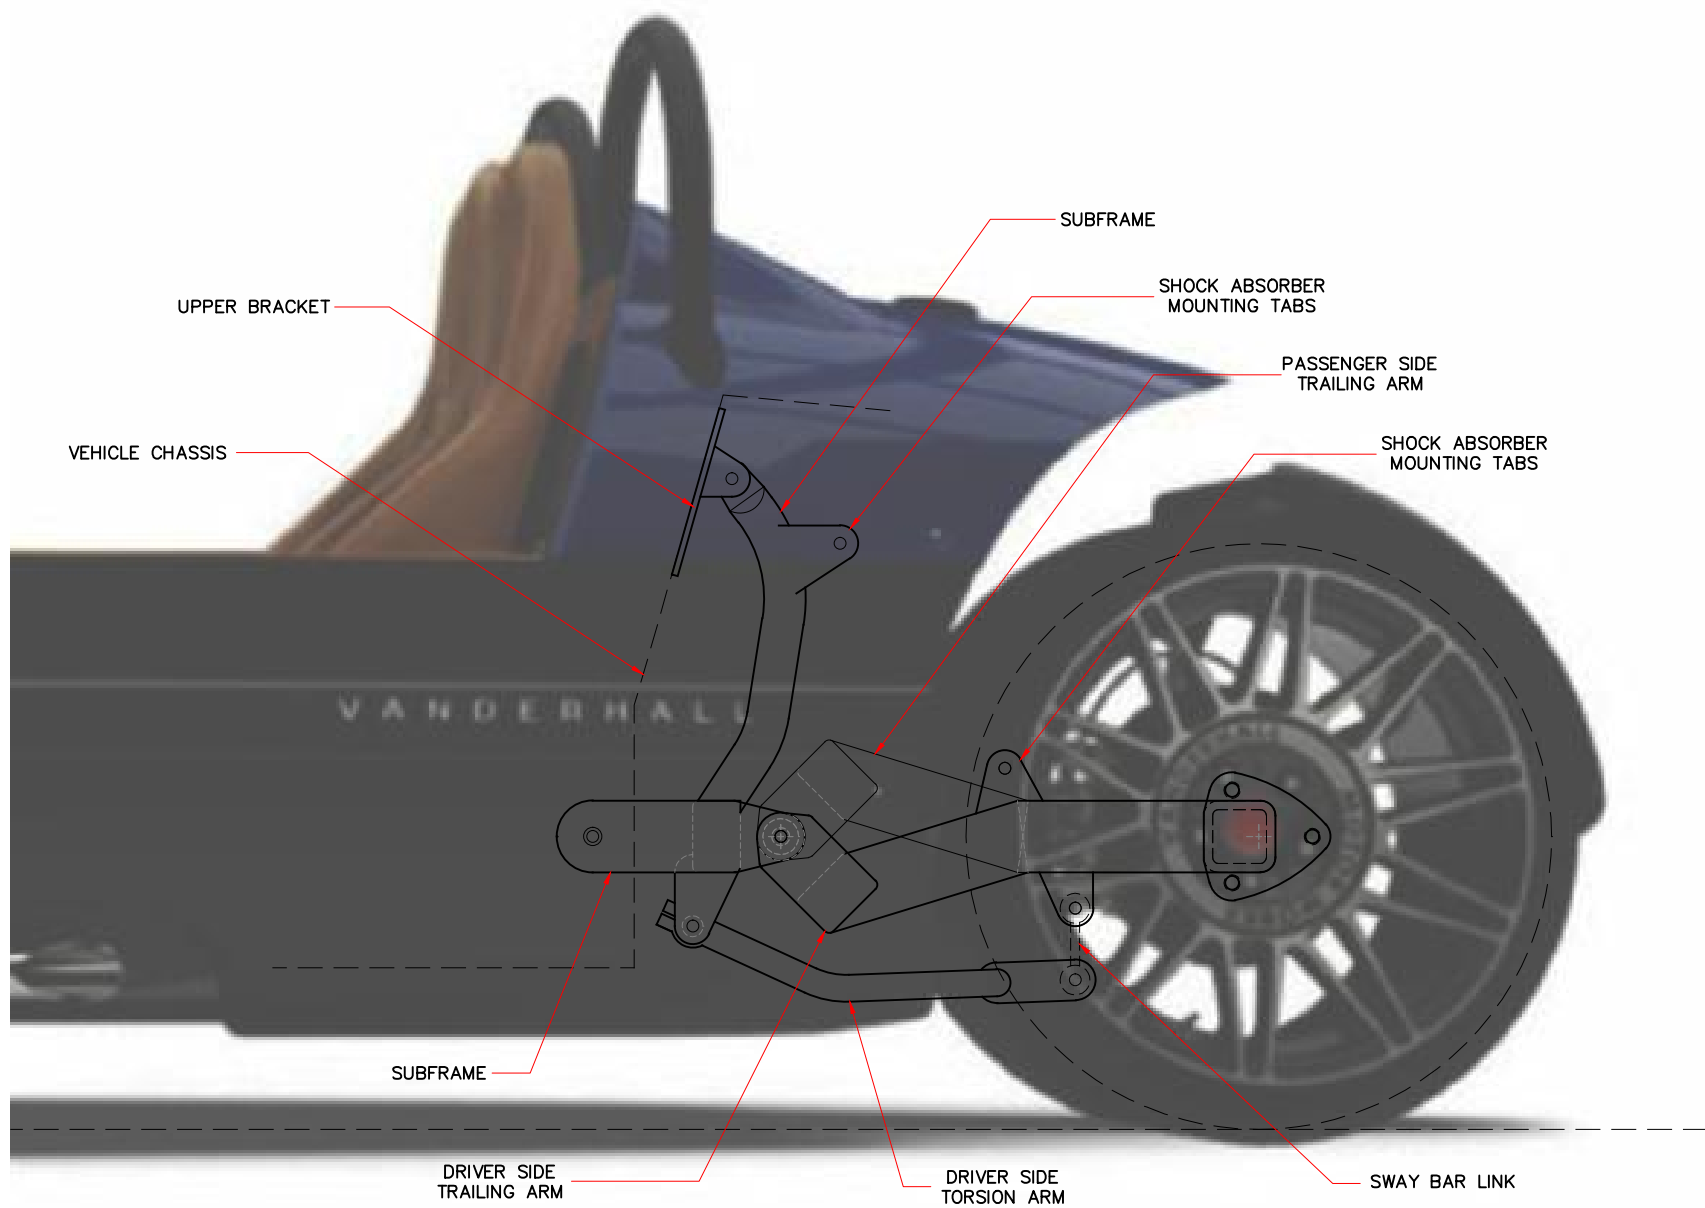

FIG.15
1. Connect the upper bracket to the subframe using 1/2"-20 flanged hex-head bolts and 1/2"-20 nylon-insert lock nuts (3 holes indicate a bottom side of the bracket). Refer to Fig.15. Hand-tighten the hardware only. Do not torque at this time to allow the bracket to pivot.
4. Guide the upper bracket so that it lays flat against the storage-compartment back plate while aligning the lower mounting holes of the subframe with the existing trailing-arm mounting holes in the vehicle chassis. Insert the original M16-1.75 mm trailing-arm bolts to secure the subframe in position. Refer to Fig.15. Do not install the lock nuts yet.
7. Deburr all drilled holes. Reinstall the subframe and upper-bracket assembly using 1/2"-20 × 1-3/8-inch hex-head bolts and distorted-thread flange nuts. Refer to Fig.15. Reinstall the original trailing-arm bolts and lock nuts. Torque the trailing-arm bolts to 103 ft-lbs. Torque the five upper-bracket mounting bolts to 80 ft-lbs.
tabs of the subframe. Refer to Fig.15. Select the appropriate washer thickness so the torsion bar assembly can pivot freely upward and downward while preventing lateral movement from side to side. Apply grease to the shoulder of each screw before installation. Apply medium-strength thread locker to the shoulder screw threads. Torque the shoulder screws to 30 ft-lbs.
4. Push the KDS rear trailing arms into position with the dual shock-absorber mounting tabs facing upward. Refer to Fig.15. Align the mounting holes and slide the included 5/8"-11 × 7-1/2-inch bolts through the assemblies. A small amount of grease may be applied to the unthreaded portion of the bolt shaft to facilitate installation. Use a rubber mallet if necessary to drive bolts in to prevent damage to the finish.
7. Install the torsion bar links, inserting the links from the center outward. Refer to Fig.15. Torque the mounting hardware to 28 ft-lbs.